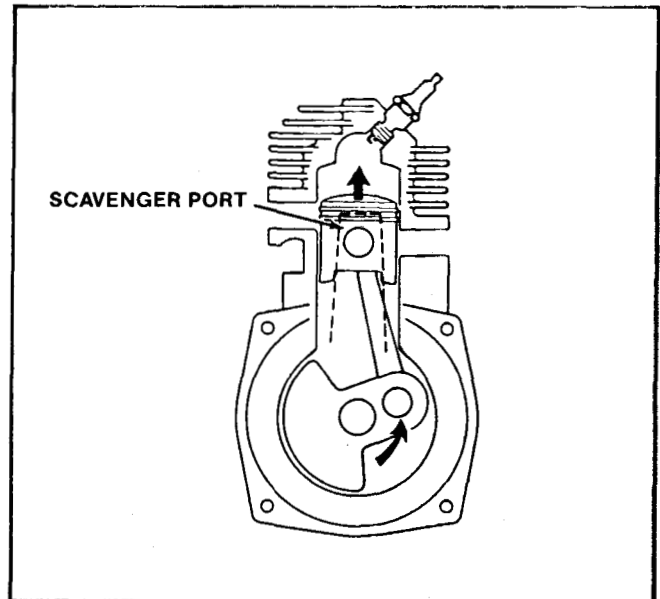

Figure 85
1. The piston closes the scavenger ports. This prevents equalization of pressures between the lower crankcase and the combustion chamber. See Fig. 85.